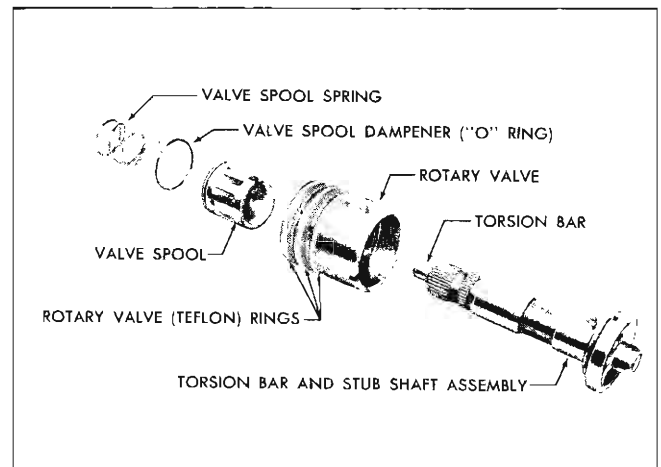

Fig. 9A-16 Rotary Valve—Exploded View
**CAUTION:** The diametrical clearance between the valve body and the spool may be as low as .0004". The slightest cocking of the spool may jam it in the valve body (Fig. 9A-15).
4. Remove stub shaft, torsion bar (small diameter bar extending through stub shaft) and valve cap assembly by tapping end of torsion bar lightly with a plastic hammer. This will dislodge the cap from valve body cap pin. See Fig. 9A-16. Do not disassemble stub shaft assembly. The parts are pinned together and are serviced as an assembly.